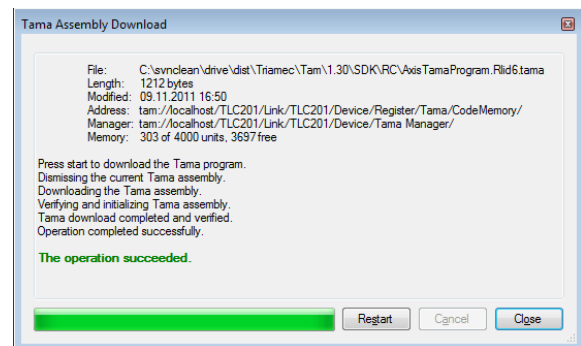

Figure 31: Tama assembly download dialog containing helpful information
2. Click **Assign Tama assembly...** and select a *Tama program* which has the file extension *.tama. Click **Open**. A download dialog appears (Figure 31). Press **Start** in order to accomplish the download. After the operation succeeded, press **Close**.